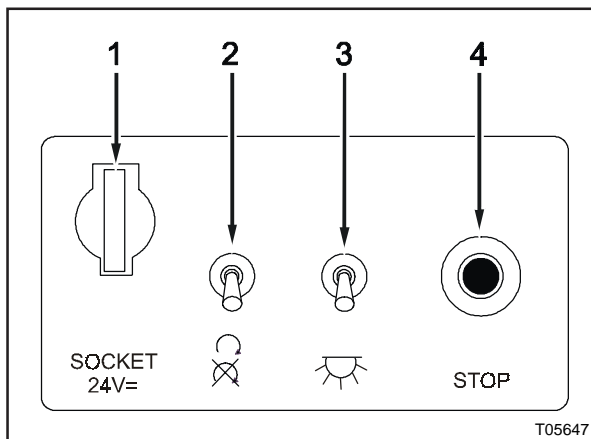
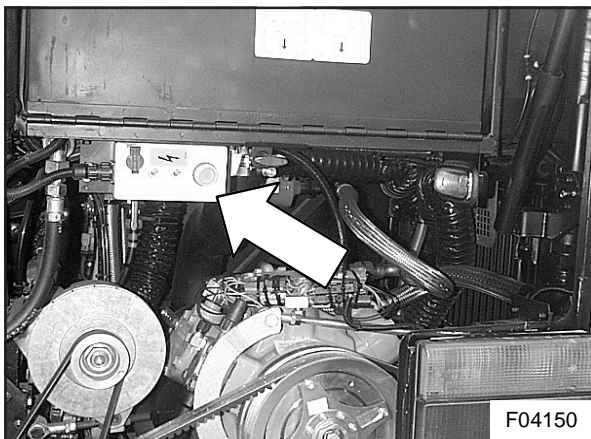

Figure 1 : Control box switches :
Figure 2 : Location of control box in engine compartment
2. Open the engine compartment door. Check that the starter cut-out switch (see 2, Figure 1) on the control box (see Figure 2) is in the "disabled" position.
3. Push and hold down the engine shut down button (see 4, Figure 1) for about 5 seconds. When the fan clutch works properly, a clicking sound must be heard, mechanical lock-up should occur, and it should take a considerable effort to turn the fan blades by hand.